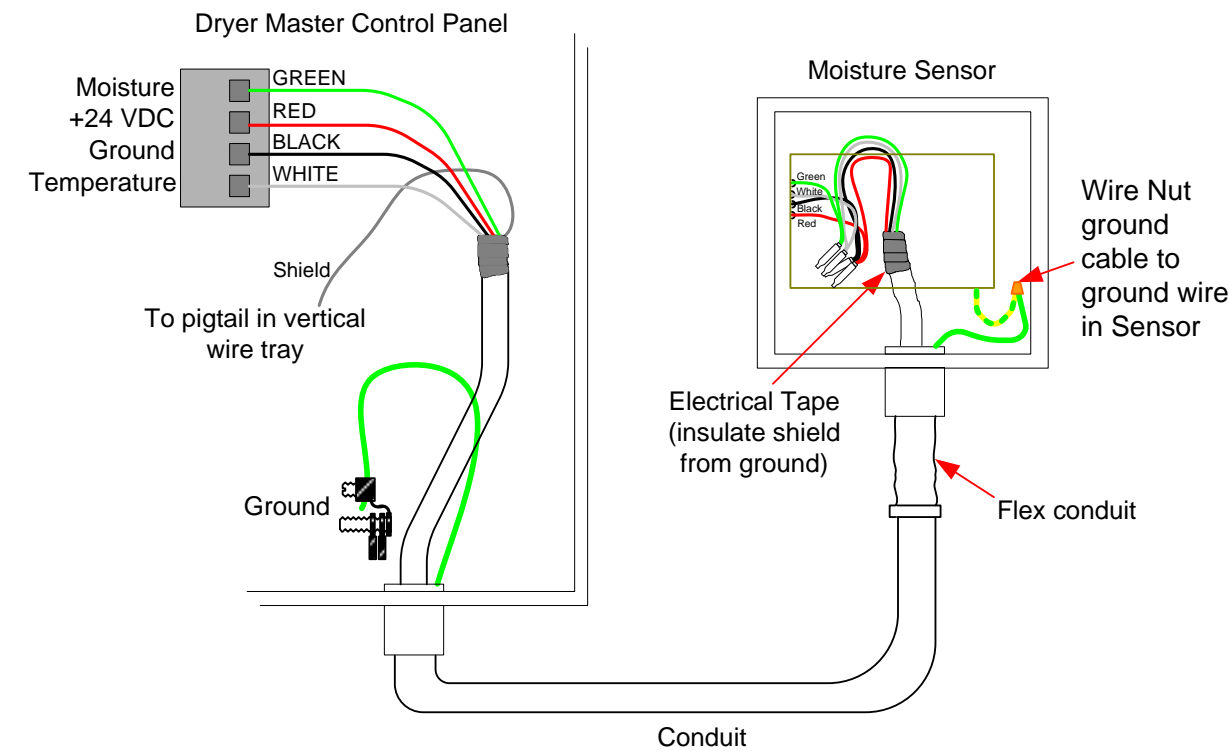

Figure 31 - Sensor hook-up physical
1. The Multi-Cables from the Moisture Sensors connect to the DM510 Control Panel termination. Attach them using the connectors as indicated in Figure 31 - Sensor hook-up physical